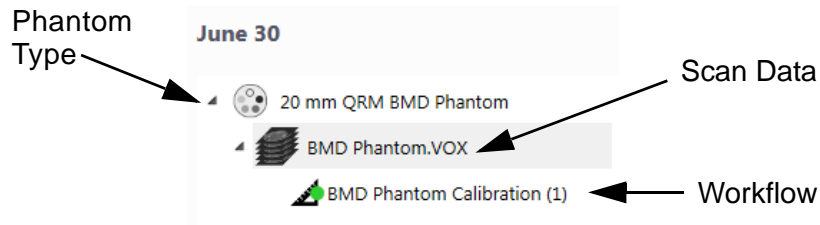

Figure 59. Workflow Calibration Data Tab
- 4 Double-click the desired workflow. The workflow displays on the AccuCT Main Window and opens at the last completed step. If a green circle displays next to a workflow name, the workflow has successfully completed. See Figure 59.